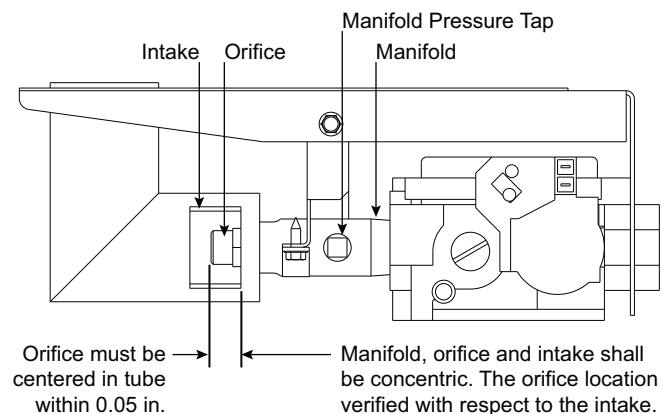

Fig. 48 — Orifice Projection and Placement
Refer to Fig. 48 for projection and placement dimension for orifice face to manifold tube. The manifold, orifice and intake shall be concentric. The orifice must be centered in the intake tube.
2. If factory orifice has been removed, check that each orifice is tight at its threads into the manifold pipe and that orifice projection does not exceed maximum value. See Fig. 48.
2. Remove manifold pressure tap plug from manifold and connect pressure gauge or manometer. (See Fig. 48.)
9. Turn off unit, remove pressure manometer and replace the manifold pressure tap plug. (See Fig. 48.)
Ensure each replacement orifice is tight as its threads into the manifold pipe and the orifice projection does not exceed maximum value. See Fig. 48.